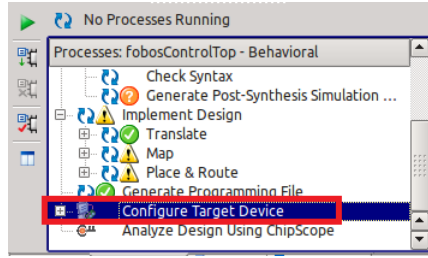

Figure 2.4:
6. Program the control board using Xilinx Impact. In the Processes window, click Configure Target Device (See Fig 2.4).